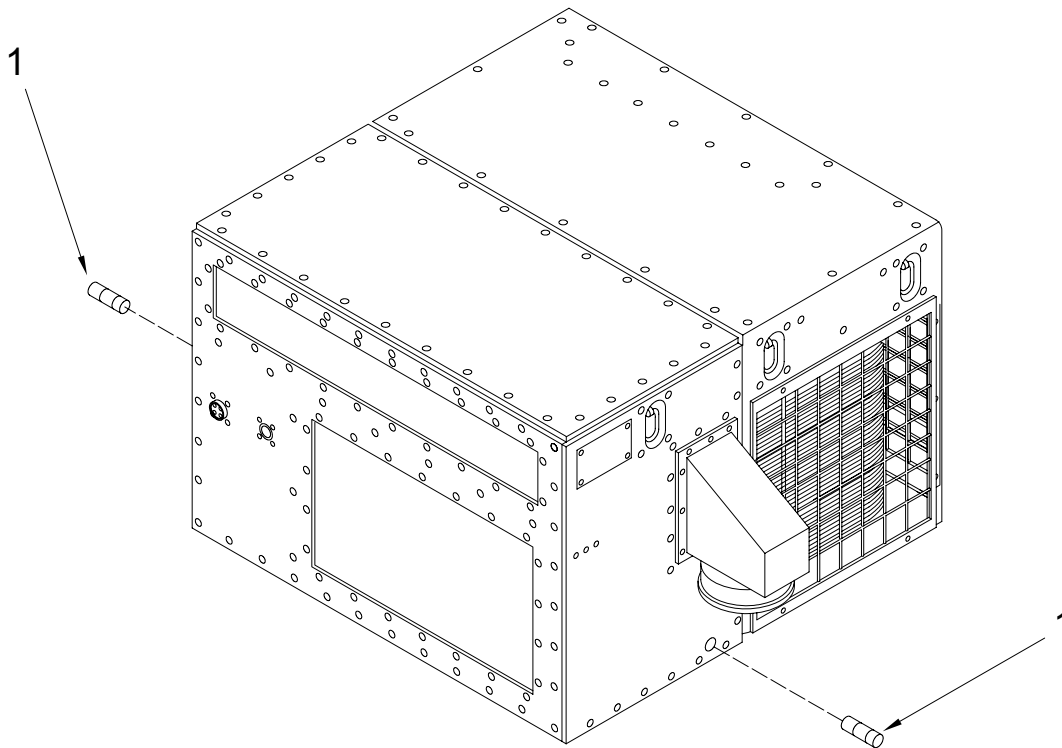

Figure 2. DRAIN PLUG REMOVAL/INSTALLATION.
1. Prior to operation, remove drain plugs (1) from both sides of air conditioner. See Figure 2.